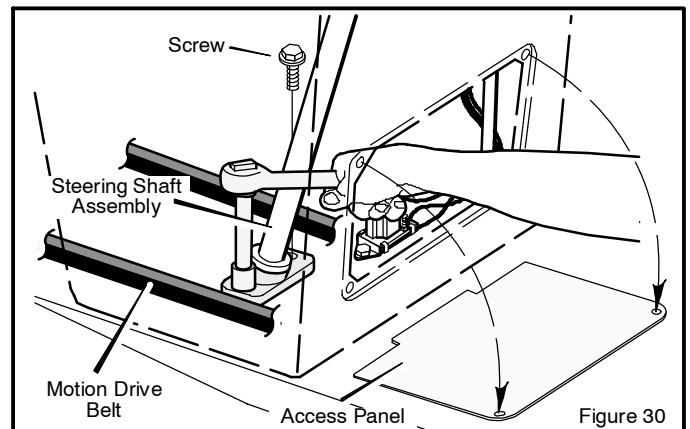

Figure 30
8. Remove the **access panel** (Figure 30).
9. Remove the two **screws** that attach the **steering shaft assembly** (Figure 30). Raise the steering wheel and **steering shaft assembly**. Pull the **motion drive belt** under the **steering shaft assembly**.
9. Attach the **steering shaft assembly** to the steering plate with two screws (Figure 30).
10. Attach the **access panel** (Figure 30).